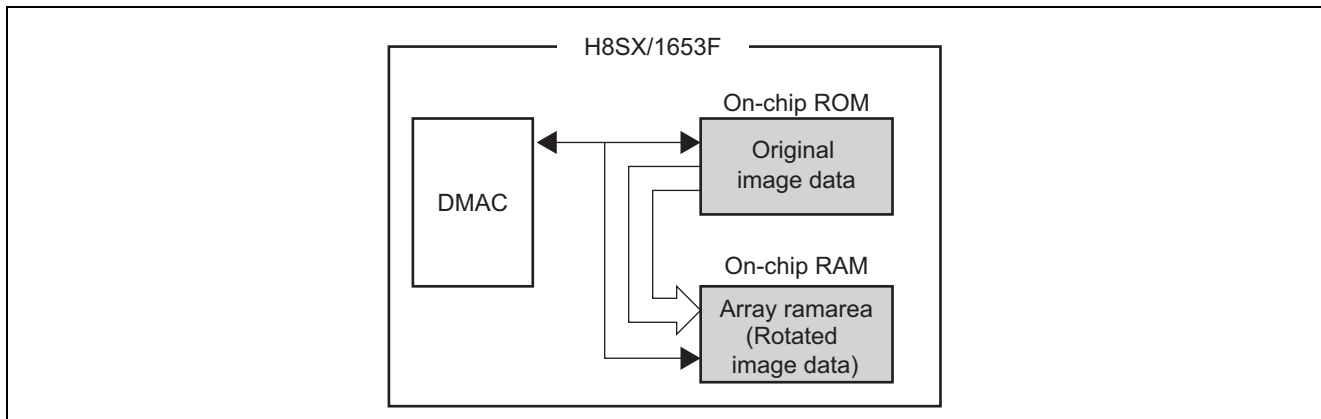

Figure 2 Memory Allocation for This Sample Task
- Figure 2 shows the source and destination memory allocation.